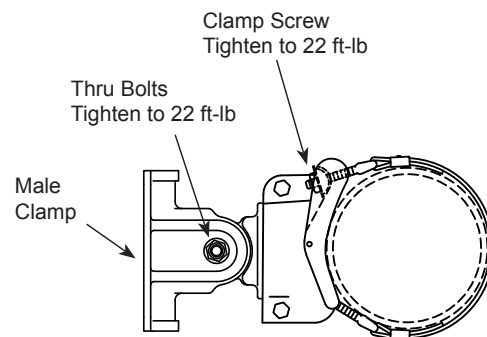

Figure 3
12. Plumb and level the bracket and torque (1) 7/16" clamp screw nut to 22 ft-lb. DO NOT OVERTIGHTEN. (Figure 3)
13. Tighten the (2) Thru-Bolts on Female Half of Clamp Kit to 22 ft-lb of torque. DO NOT OVERTIGHTEN. (Figure 3)
14. Torque the remaining 7/16" clamp screw nut to 22 ft-lb. DO NOT OVERTIGHTEN. (Figure 3)